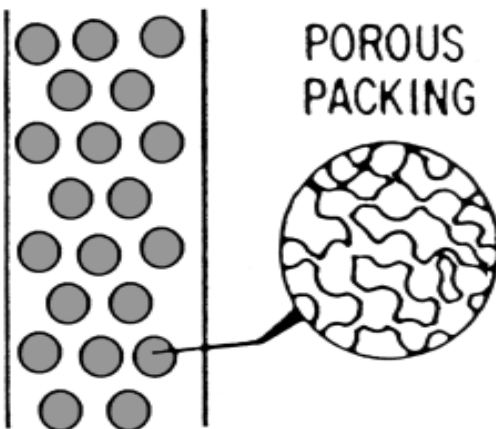

Figure 2. The column dead volume is the sum of the pore volume and the interstitial volume.
*Unlike Reversed Phase Chromatography (RPC), all compounds elute before the column dead volume (Fig. 2). Therefore, the largest elution volume in any given SEC column is equal to the total mobile phase volume in the column. (Ref 8).*